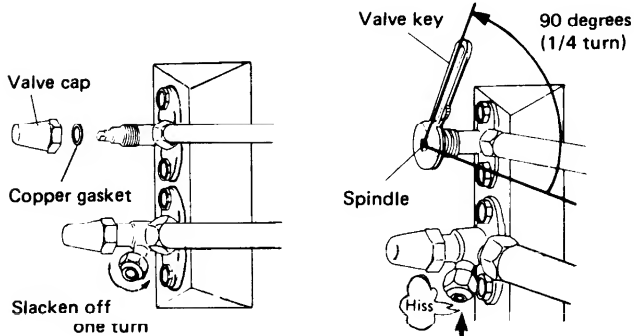

Fig. 34
- Slacken off the flare nut at the charging port one full turn. Fig. 34